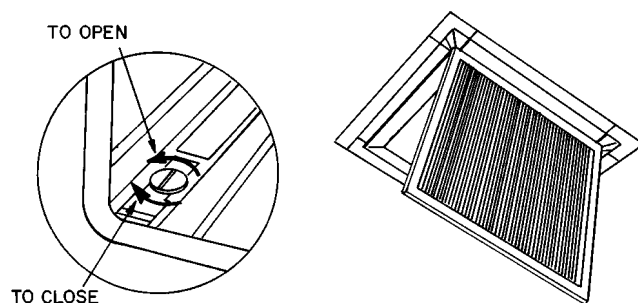

Fig. 18 – Intake Grille Slotted Screws
1. Open intake grille by turning screws as shown in Fig. 18.